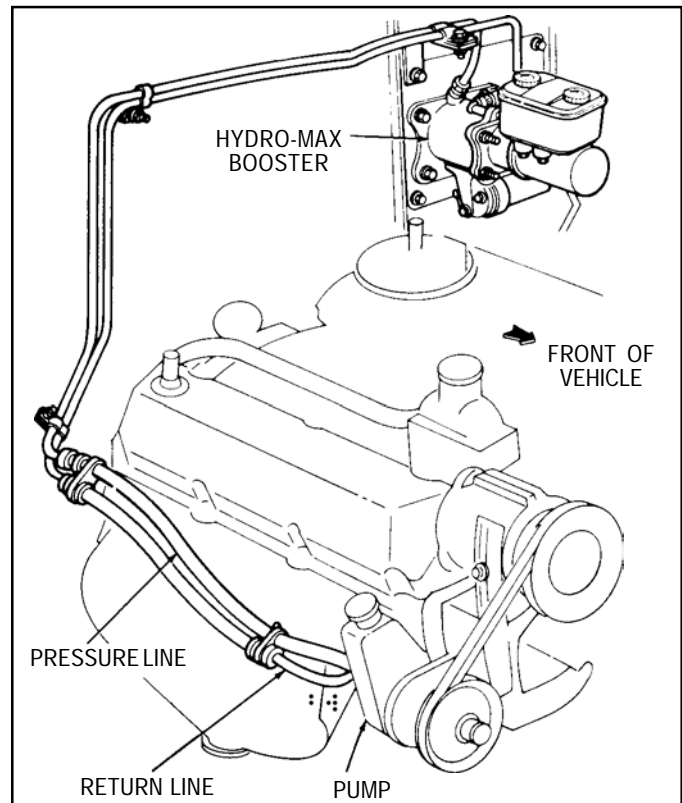

FIGURE 4
2. Powered by a dedicated hydraulic power source. (Figure 4)